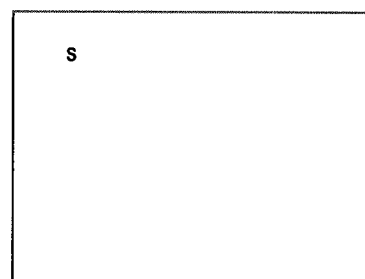
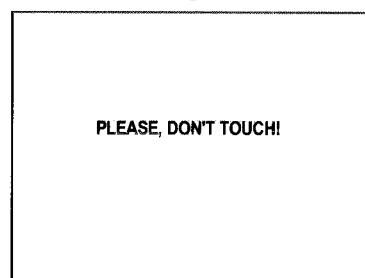

Fig.1
Fig.2
(1) HOW TO ENTER THE SERVICE MAIN MENU
- ① Press **MENU** key and **CONTRAST** key simultaneously.
- ② The letter "S" appears at the upper left of the screen.(Fig.1)
- ③ While "S" is displayed, press **MENU** key and **PHASE** key simultaneously.
- ④ The screen display "PLEASE DON'T TOUCH".(Fig.2)